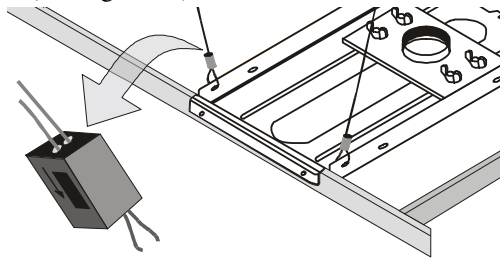

Figure 22: Securing the Support Cables
3. For each of the four anchoring cables, thread the cable through the cable lock and the support hole and then again through the other side of the cable lock (see Figure 22).